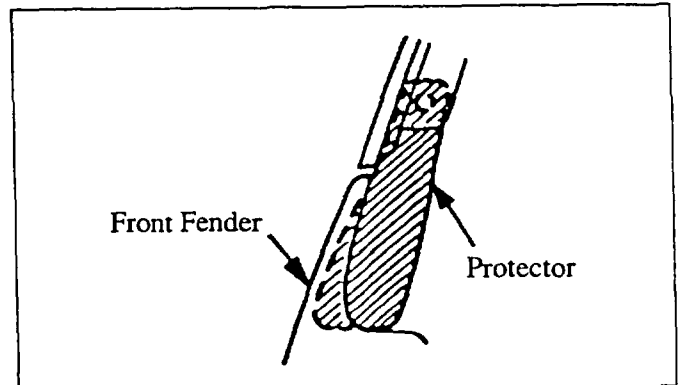

Figure 12: *Base of "A" pillar*
4. Reinstall the mounting screw and insert the protector inside the front fender cavity. **Figure 12.**